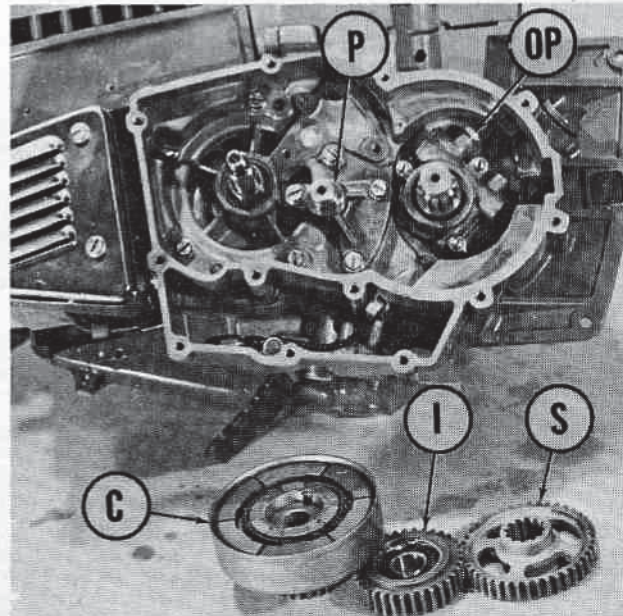

Fig. HL61—View of gearcase with clutch, idler gear and sprocket gear removed.
crankshaft. See Fig. HL59 and HL60. Thrust bearing (75) and clutch drum (76) can now be removed. Drum sleeve bearing (77—Fig. HL58) can be removed if necessary. Turn nut (33) clockwise to remove and lift idler gear assembly (31) off idler post (28). Bearing (32) can be removed from idler gear after removing snap rings (30). Remove retaining ring (34) and pull sprocket gear (35) from sprocket shaft (27). See Fig. HL61.
AUTOMATIC CHAIN OILER. Models XP-1100 and XP-1130 gear drive saws are equipped with an automatic chain oiler system and pump for this system is located inside the gear case; refer to Fig. HL61. Automatic chain oiler pump on direct drive XP-1020 and 2000 models is mounted on drivecase behind the chain sprocket and clutch assembly; refer to exploded view in Fig. HL68.